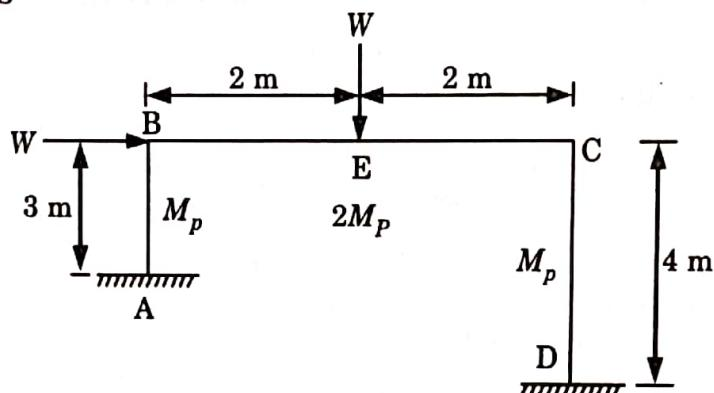

Fig. 13.
- a. Find the collapse load for the loaded portal frame shown in Fig. 13.